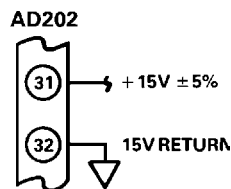

Figure 3a.
**Powering the AD202.** The AD202 requires only a single +15 V power supply connected as shown in Figure 3a. A bypass capacitor is provided in the module.